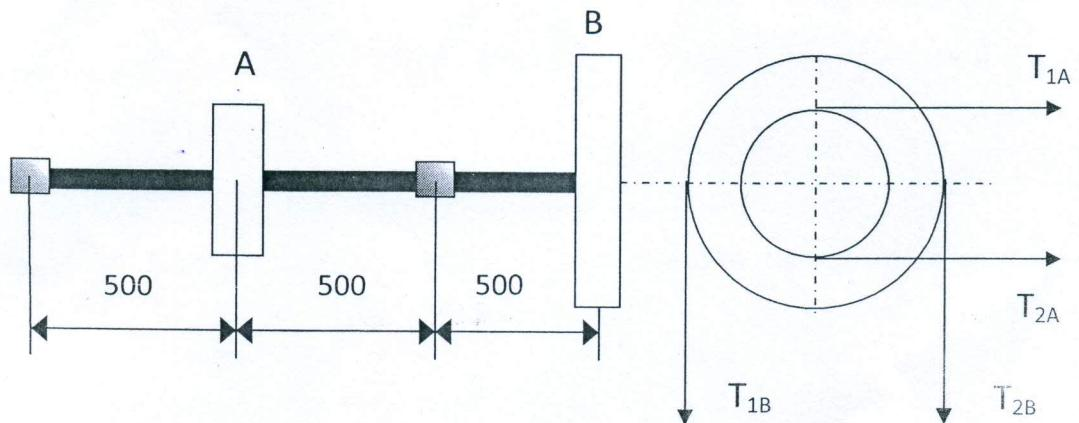

Fig.1
Q.5 A line shaft carries two pulleys A and B as shown in fig.1. the diameter of pulley [10] (A) is 360 mm and pulley (B) is 500 mm. The maximum tension in either belt is 2.5 kN and the ratio of tensions for both pulleys belt drive is 2.5:1. The shaft is made of 45C8 steel having $\sigma_{ut} = 630 \text{ N/mm}^2$ and $\sigma_y = 380 \text{ N/mm}^2$. The pulleys are keyed to the shaft. If shock and fatigue factors are $k_t = 1$ and $k_m = 1.5$, find the diameter of the shaft, using maximum shear stress theory.